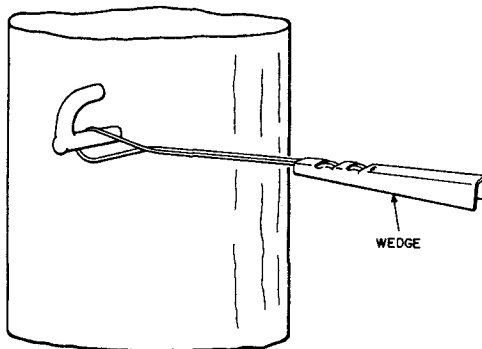

Fig. 9—Wire Loop on Drive Hook
**4.03** Place the wire loop of the wedge on the drive hook as indicated in Fig. 9. Where the attachment is a knob, spread the wire loop sufficiently to permit its slipping over the knob and into the groove. Then pull on the wire loop and at the same time pinch the two sides together until the loop conforms to the diameter of the groove.